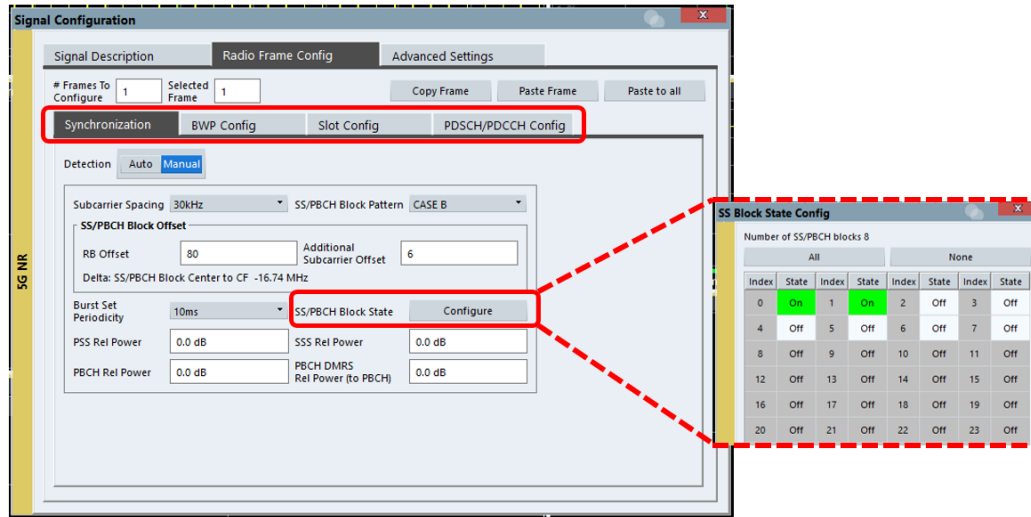

Fig. 2-17: Radio Frame Config on the VSE
- From the Radio Frame Config window, the sub categories (shown in Fig. 2-17) need to be configured
- SS /PBCH Block State: Configuration shown in Fig. 2-17